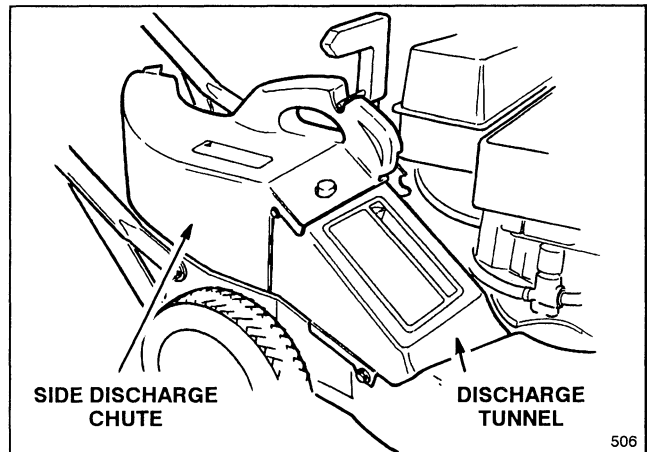

Figure 17
2. **Recycler® Side Discharge Kit, Model No. 59189**—Install discharge tunnel and rear mounted side discharge chute to convert Recycler® mower to a side discharge mower (Fig. 17). Includes discharge tunnel plug.